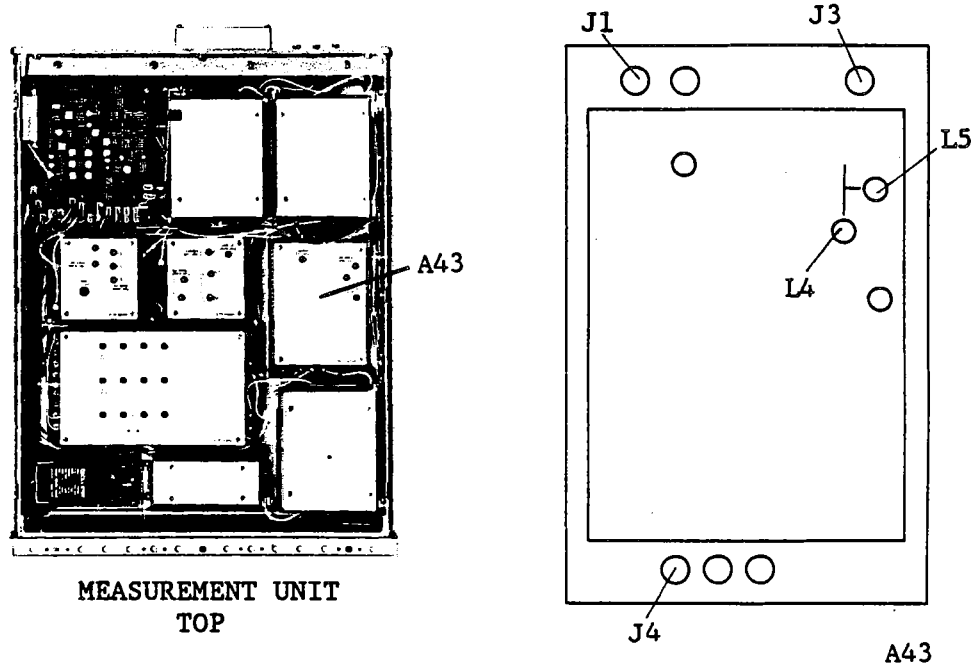

Figure 3-116. Source First IF Converter 86.6 MHz BPF Adjustment Locations
1. Remove the shield cover from the A43 board. See Figure 3-116 for the locations of the A43 board.